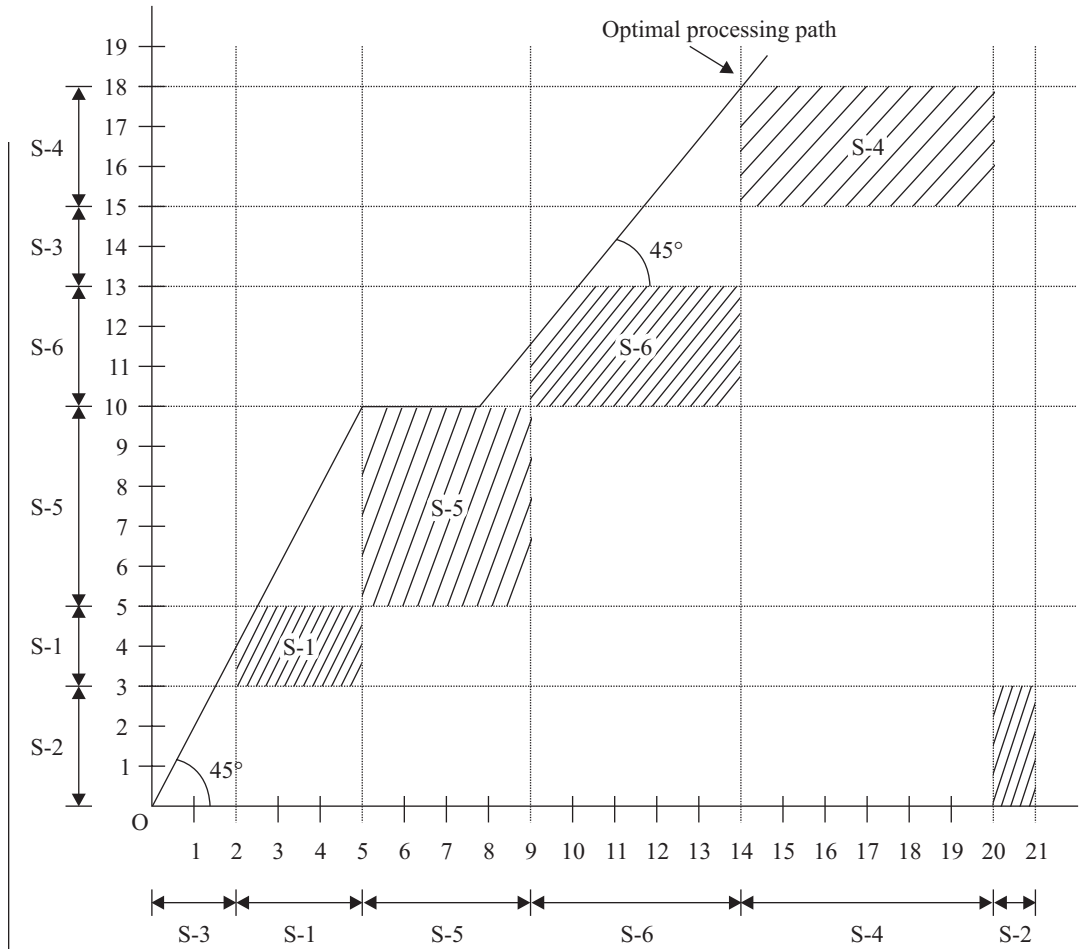

Fig. 9.4
- (d) *Multiple parallel facilities with multiple queue:* Here there are a number of queues and separate facility to service each queue. Booking of tickets at railway stations, bus stands, etc., is a good example of this. This is shown in figure 9.4.